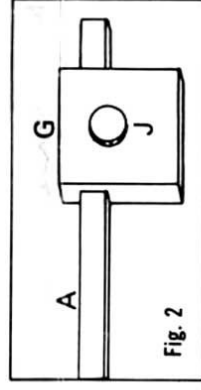

Fig. 2
- Place counter balance weight "G" on rear of tone arm as shown in Fig. 2. Be certain that knob of counter weight points to the right side of unit and that the larger portion is hanging below the tone arm.